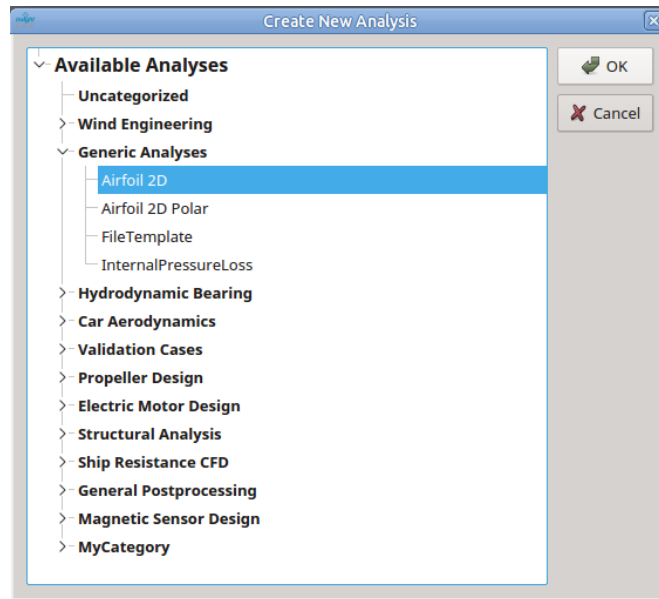

Figure 6: Dialog for selection of the type of a new analysis
**Creating a New Analysis** A new analysis is created by selecting in the menu **Analysis** >> **New...**. Then a new dialog appears, in which the list of available analyses is displayed (figure 6). The required analysis should be selected and confirmed by clicking "Ok".